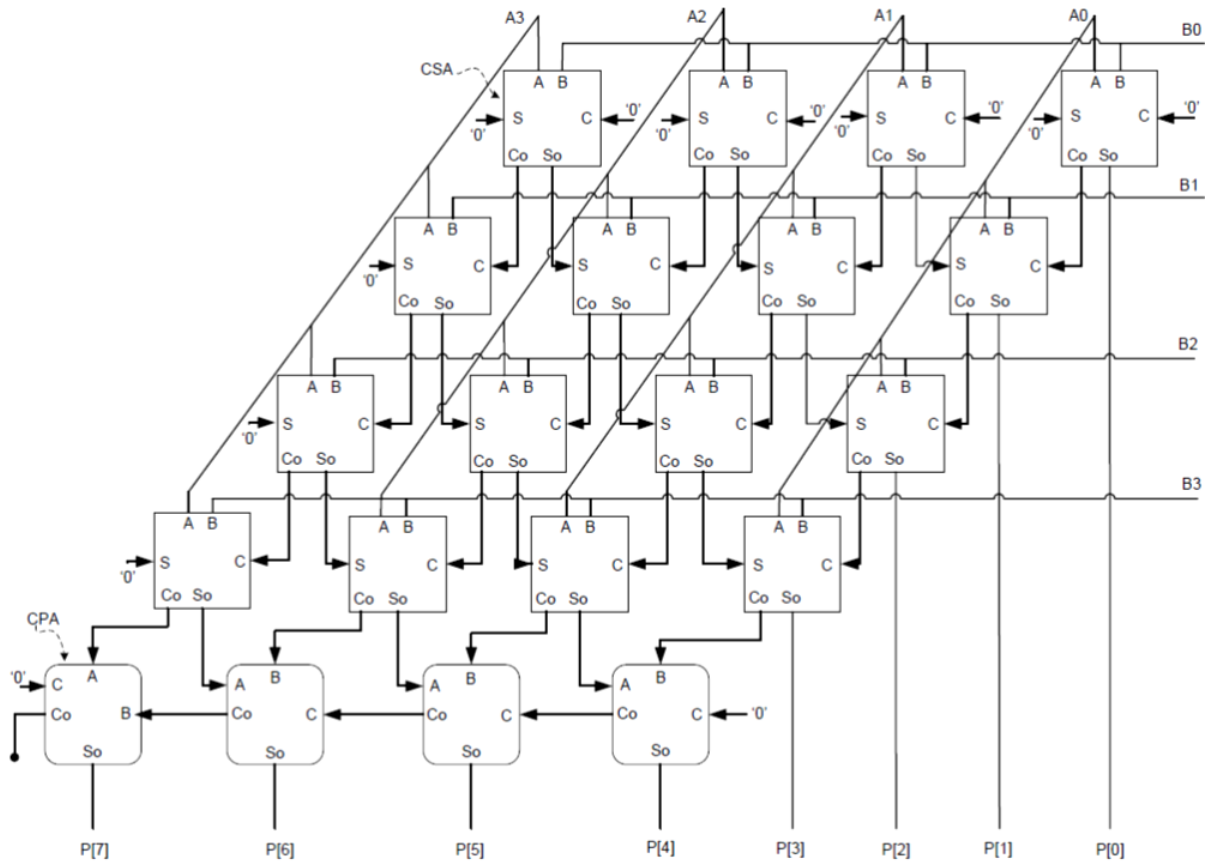

Figure 1: Array Multiplier Unit
Figure 1 provides a block diagram for a 4x4 Array Multiplier unit. This overall unit accepts the 4-bit inputs A and B (A0:A3, B0:B3), and outputs an 8-bit product (P0:P7). According to Figure 1, the array multiplier consists of two main blocks: 1) Carry Save Adder (CSA) blocks- represented by square shape blocks, and 2) Carry Propagate Adder (CPA) blocks- represented by the rounded square blocks, present in the last row. Note that the least significant bits (LSB) of the multiplier's product (P0:P3) are produced by the CSA matrix, whereas the most significant bits (MSB - P4:P7) are output by the CPA matrix. Note that the final carry out bit located in the last row and column of the multiplier is not connected. Therefore this array multiplier is of type unsigned.
A CSA unit differs slightly in comparison to a CPA. The CSA employs an AND gate on the inputs A and B, producing the output AB. The AB bit, Sum in (S), and the Carry in (C) bits are then used as input to the full-adder, producing the Co and So output bits. Notice that the first and last row inputs of the array multiplier (Figure 1) differ in comparison to the inner-most rows. Similarly, the most significant bit of the multiplier's column also differs in input stimuli when compared to the rest of the matrix.
Note that the order in which the rows and columns are calculated is vital. In particular, if a row or column depends on a previous row or column's calculation, this precedence and order must be maintained. Using C++ cout statements and generating waveforms may help in debugging your design. Therefore be sure to pay close attention to the connection and implementation details provided in Figure 1.